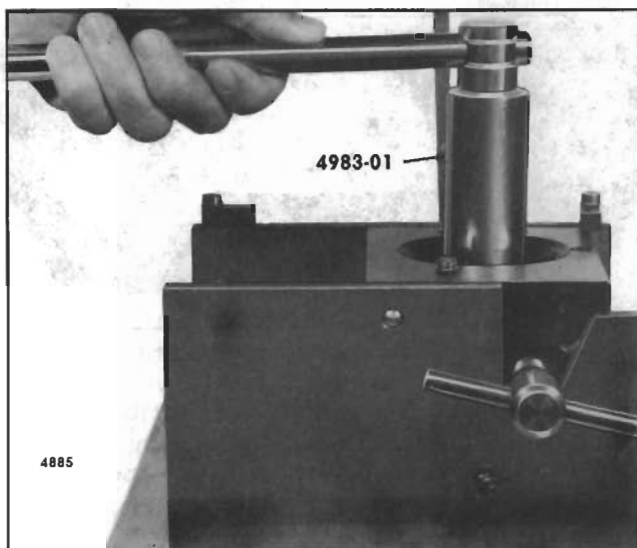

Fig. 25 - Removing Injector Nut
4. Invert the fixture and, using socket J 4983-01, loosen the nut on the injector body (Fig. 25).